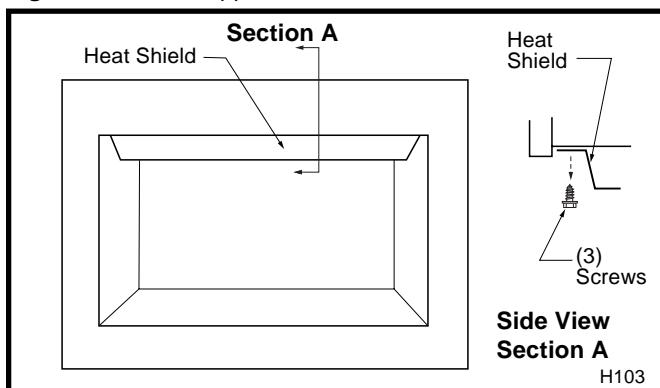

Fig. 76 Heat shield.
3. Remove three (3) screws securing heat shield to combustion dome. (Fig. 76)